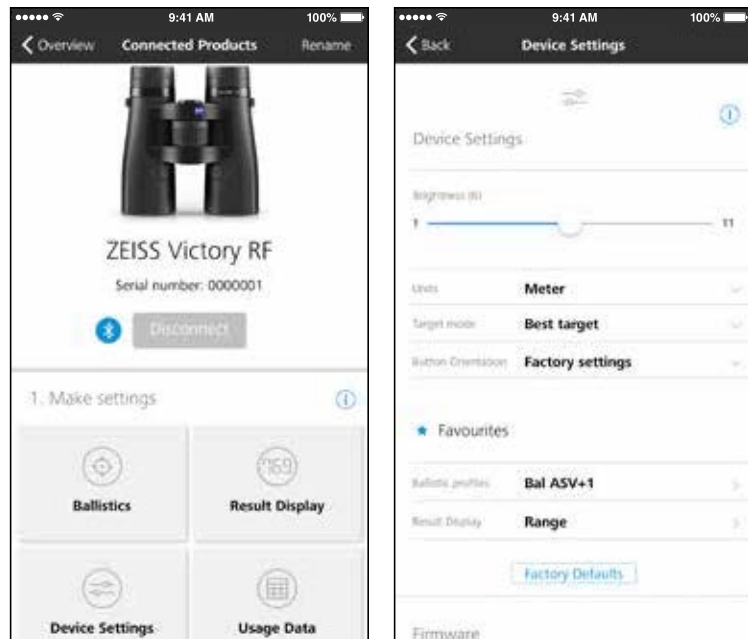

Fig. 16
- From the ZHA Dashboard, select the **"Connected Products"** tab. Notice the ZEISS Victory RF model with serial number. Then select **"Device Settings."** (Fig. 16)